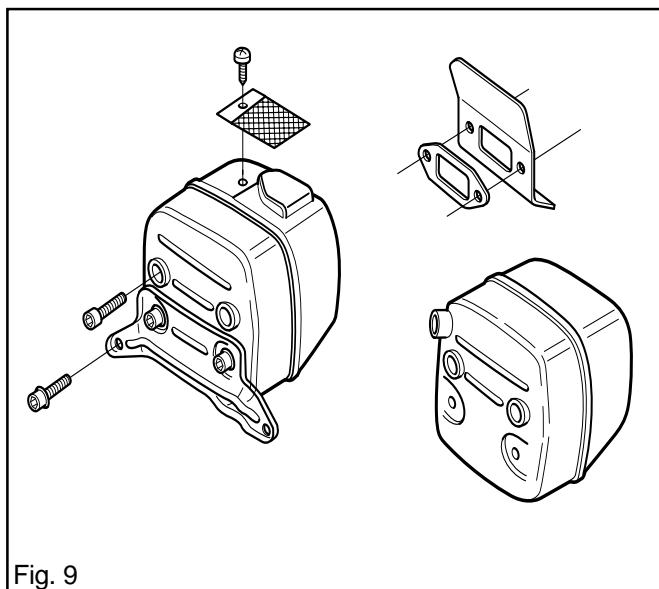

Fig. 9
2. If the saw is fitted with a spark-arrester, refit it. See fig.9.